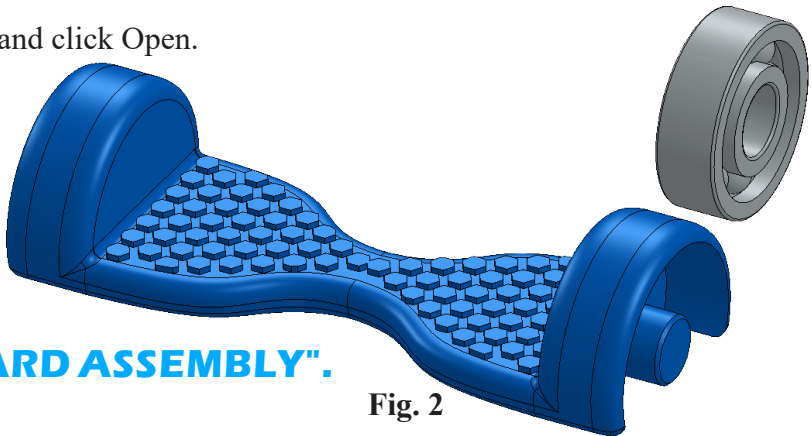

Fig. 2
Step 6. Place Bearing as positioned in Fig. 2.